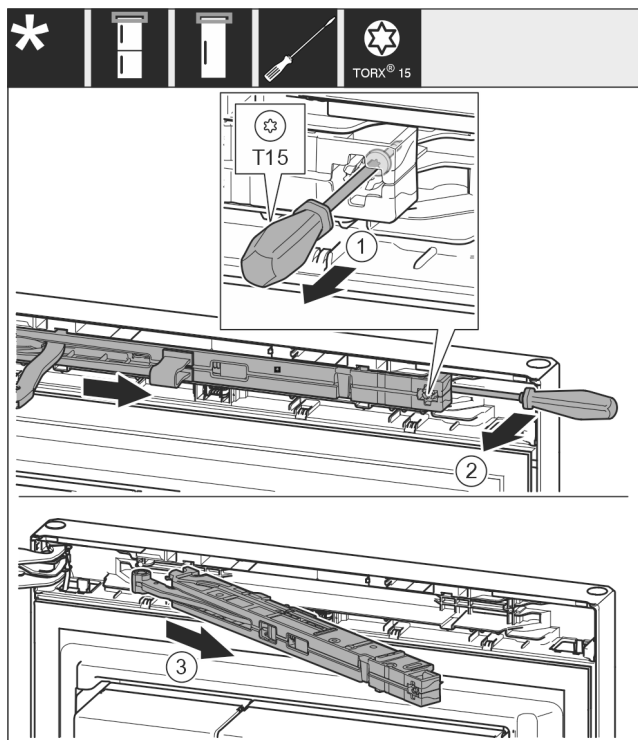

Fig. 13
- Use screwdriver to loosen the screw Fig. 13 (1) on the closing damper unit by 14 mm.
- Lever the closing damper unit Fig. 13 (2) forwards on the handle side using a screwdriver.
- Pull out the closing damper unit Fig. 13 (3).